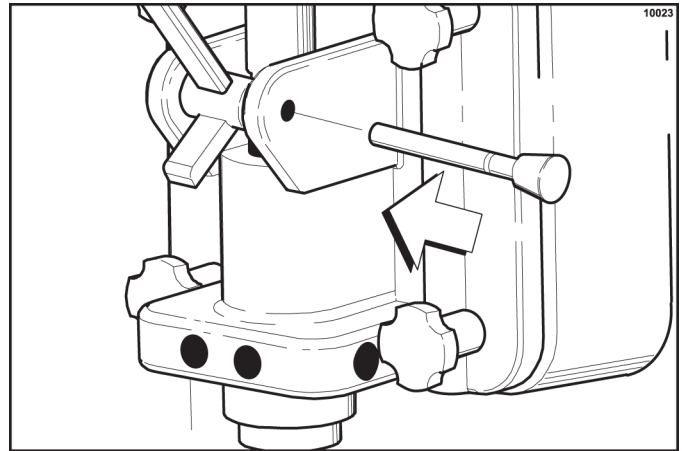

Figure 6-16
15. With the stopping tab of the draw handle facing down, slide the fork of the draw handle into the slot of the draw valve. Secure the draw handle with the pivot pin. (See Figure 6-16.)